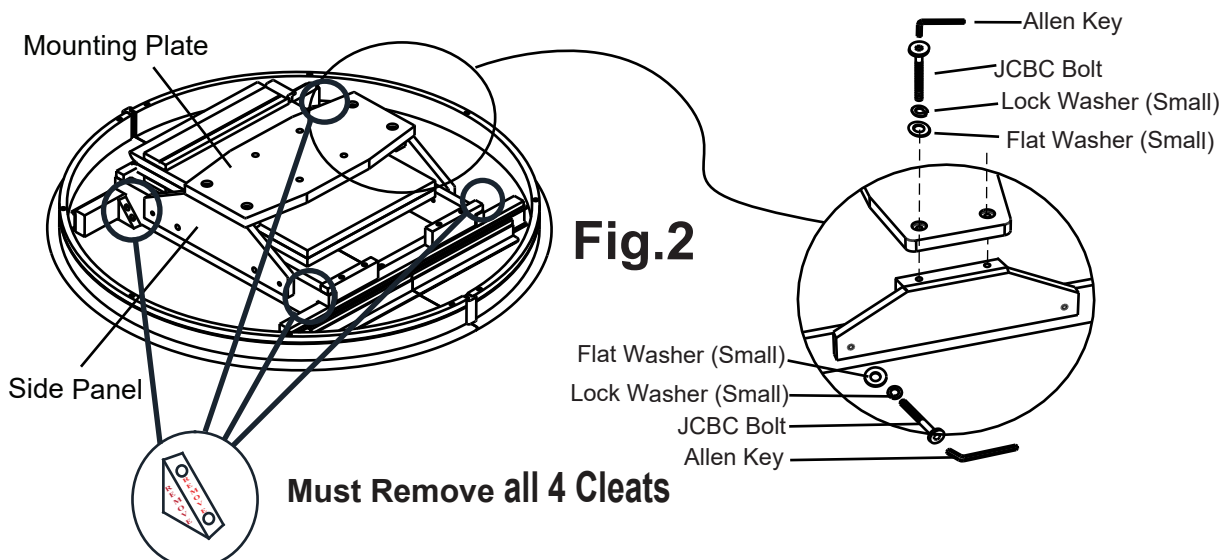

Fig.2
2.1- Position the table top upside down on a smooth, protective surface such as carpet. Remove and discard the temporary wood strip. Install the side panel and mounting plate by using the supply hardware as shown on Fig.2.